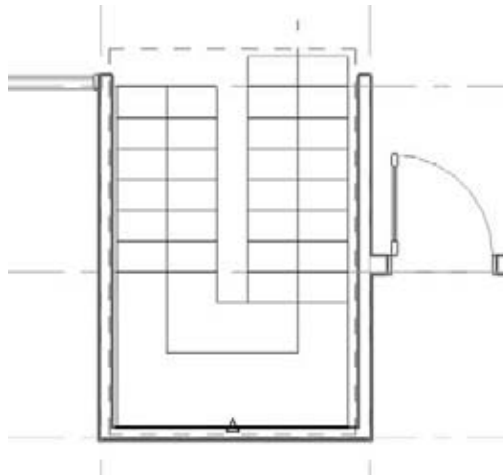

Figure 4.122
2. With the first pick, select the center of the stair boundary by the landing side, and then select the middle point of the wall. This should place the stair in the center between the two walls. You'll know you've found the center of the stair line and the wall when you see the triangular snap shown in Figure 4.122.